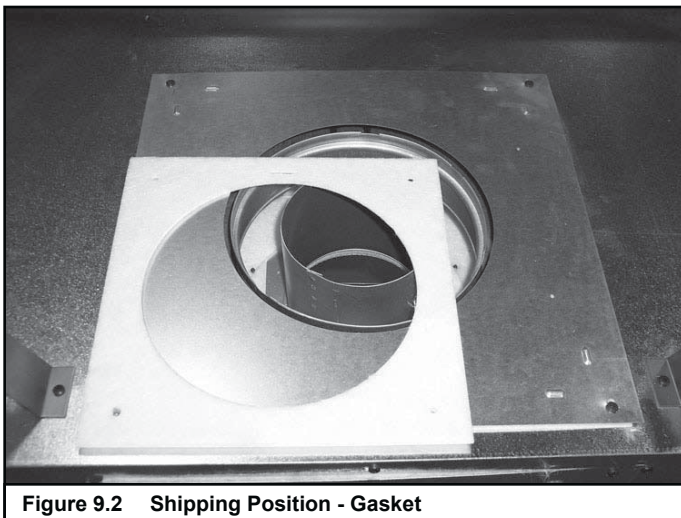
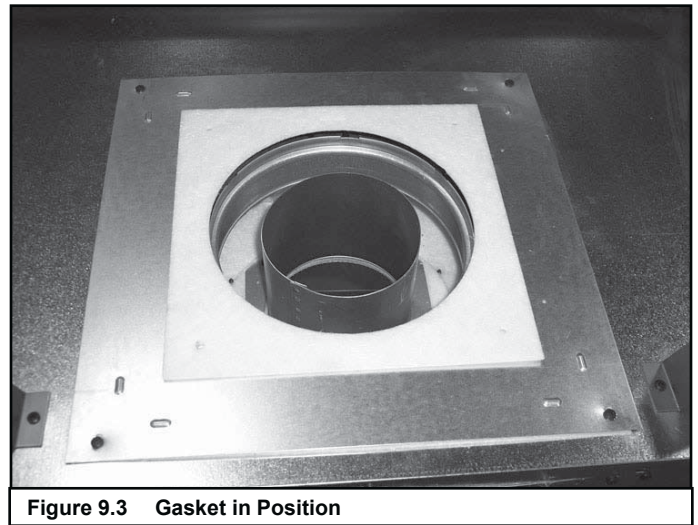

Figure 9.2 Shipping Position - Gasket
Figure 9.3 Gasket in Position
- Move the gasket from the shipping position (Figure 9.2) to the position shown in Figure 9.3. Replace the screw.